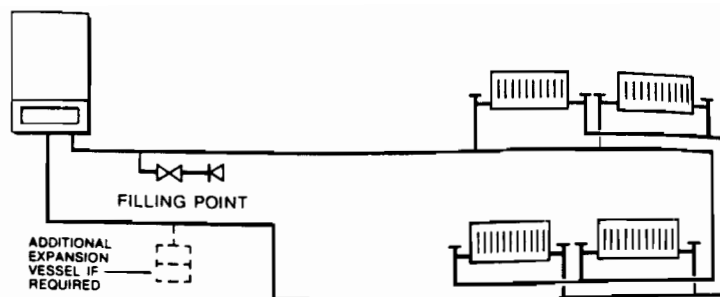

FIG. 4 TYPICAL SEALED SYSTEM
5. GUIDE TO SYSTEM REQUIREMENTS (see Figs. 4 & 6)
(4) Provisions for Make Up Water (see Fig. 4)
If the capacity of the central heating system should exceed 156 litres, an additional vessel should be installed on the return to the combination boiler from the heating system (Fig. 4). Guidance on vessel sizing is given in (Table 3).